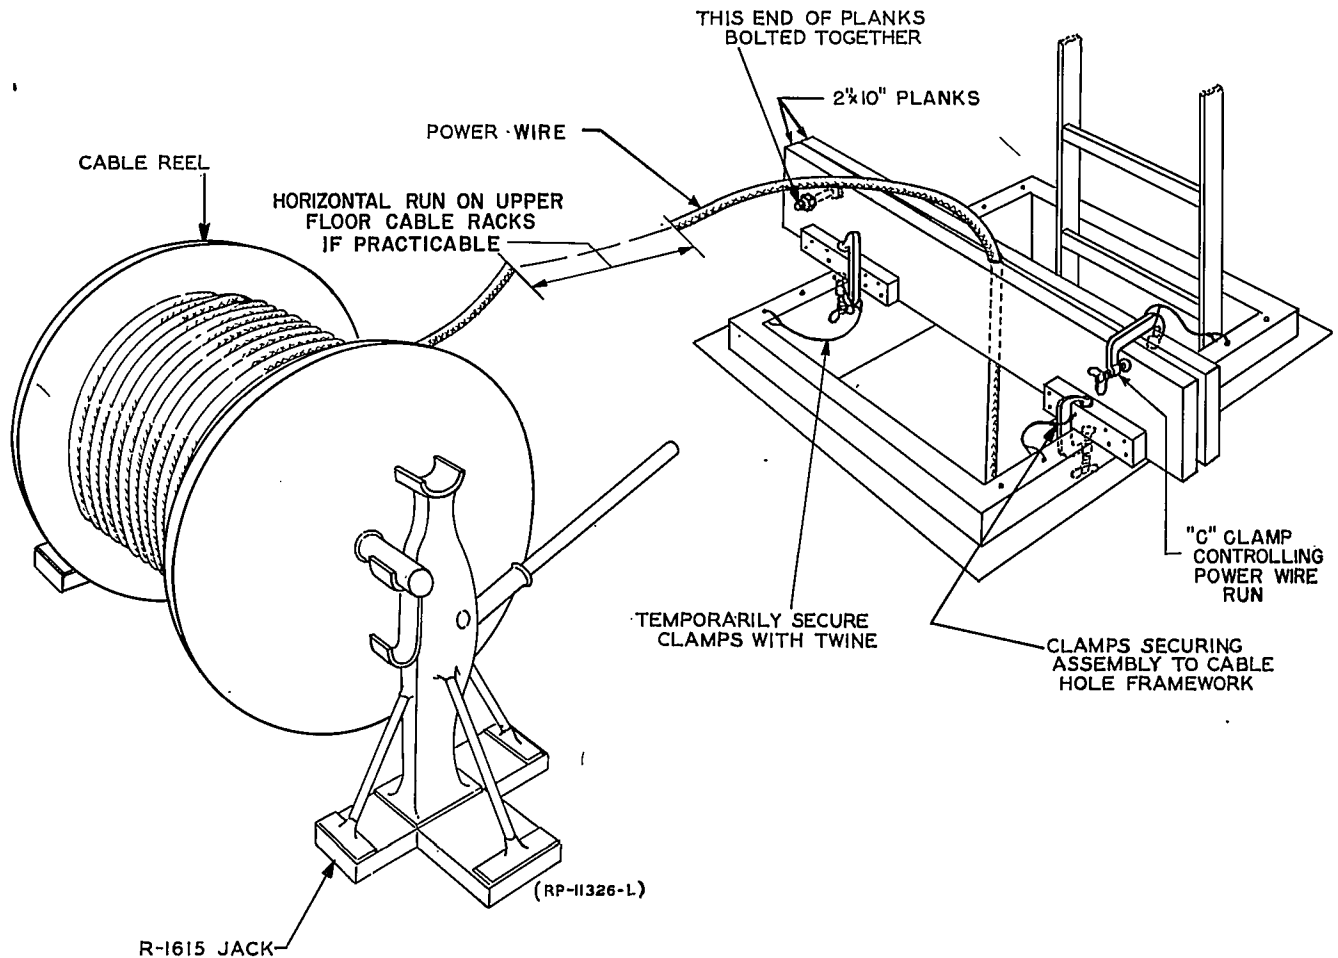

FIG. 7 AN ALTERNATE ARRANGEMENT FOR CONTROLLING WIRE AT CABLE HOLE
10.042 An alternate method is shown in Figure 7. Precautions must be taken to prevent the weight of a long vertical run from placing a strain on the reel and possibly losing control. This may be prevented by feeding the wire from the reel over the horizontal rack on the upper floor, if possible, and then passing the wire through two pieces of 2" x 10" planking which is long enough to fit across the shaft framework. Bolt one end of the planks together with 5/8" rods, spacing the planks slightly less than the diameter of the cable, and the other end gripped and controlled by an R-1455 C clamp. Cut a smooth depression or runway in the 10" side of the planks, and face these grooves to form a pathway for the cable. Apply a thick coat of RM-641450 or similar wax, and observe the wire after passing through the planks to note that no damage to the braid is apparent.